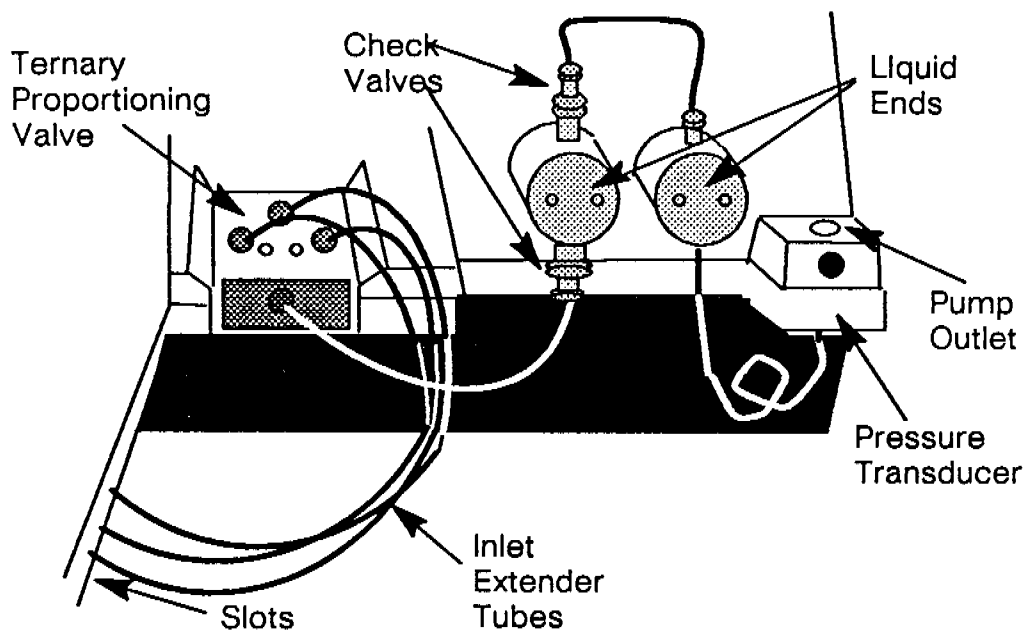

Fig. C.5 TPV Solvent Connections
3. Remove the inlet and outlet tubings from the transducer (see Fig. C.5).